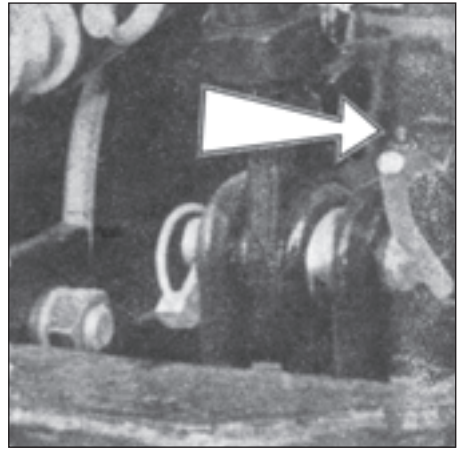

Fig. 172
37. Grease the yoke of the draft control (Fig. 172).